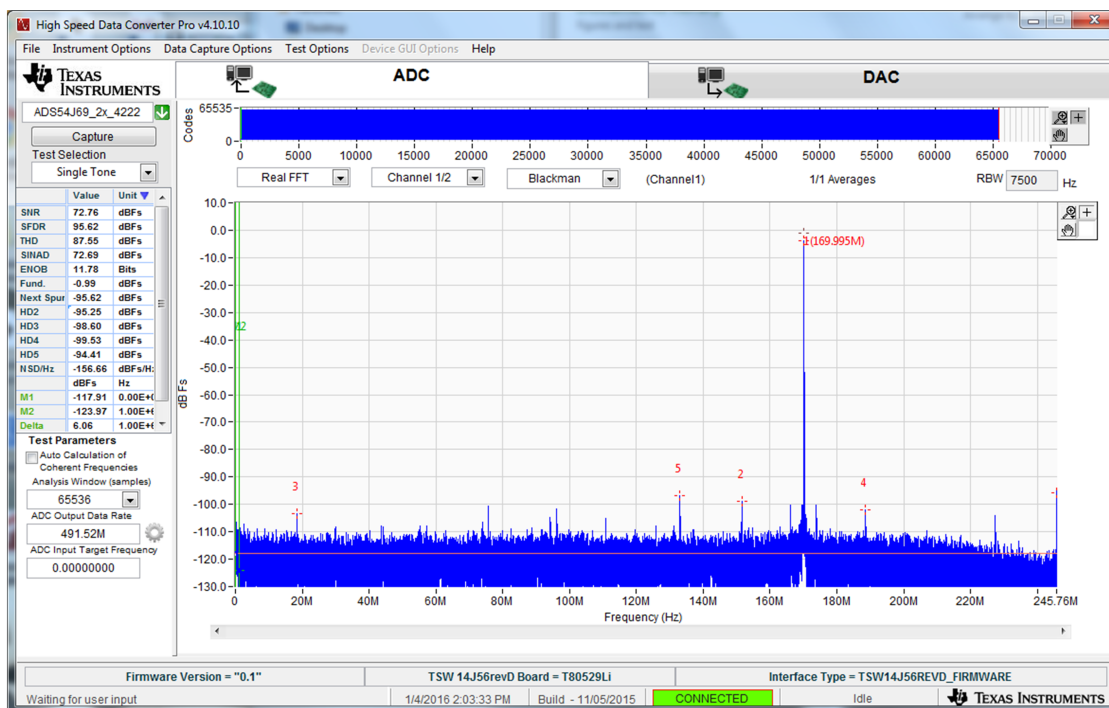

Figure 5. Channel 1 Data Capture Results Using Decimate-by-2 Low Pass Filter Mode
11. The results from the captured data of Channel 1 should look like Figure 5 and the performance should be similar to Table 1. If this result is not achieved, then see the Quick Start Troubleshooting section of this document.